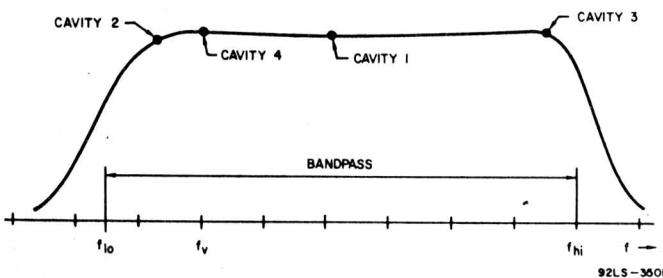

Figure 3 — Response Presentation after Tuning Cavity 1 to about 2 MHz above F_v and fine tune other cavities
2. Fine tune cavities Nos. 1, 2 and 3 for a smooth bandpass. Check **Figure 3** for proper response for the normal vestigial sideband TV signal.
7. Tune the input cavity (1st) higher in frequency (clockwise) until the bandpass roughly has the desired shape as shown in Figure 3. Make sure that the output power corresponds to the blanking level or less and adjust the rf drive, accordingly.
8. Fine tune cavities 1, 2 and 3 for a smooth bandpass. Check Figure 3 to find the areas of the response curve affected by the individual cavities. This is the proper response for the normal vestigial sideband TV signal.